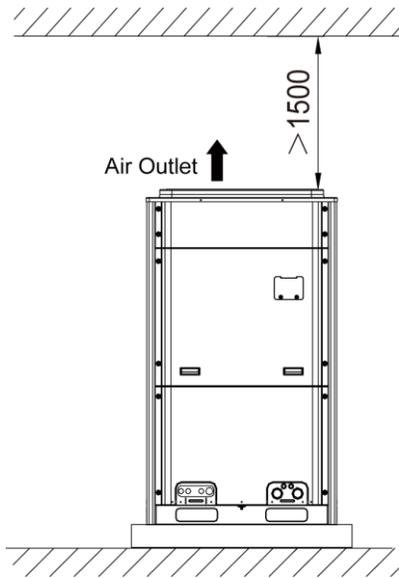
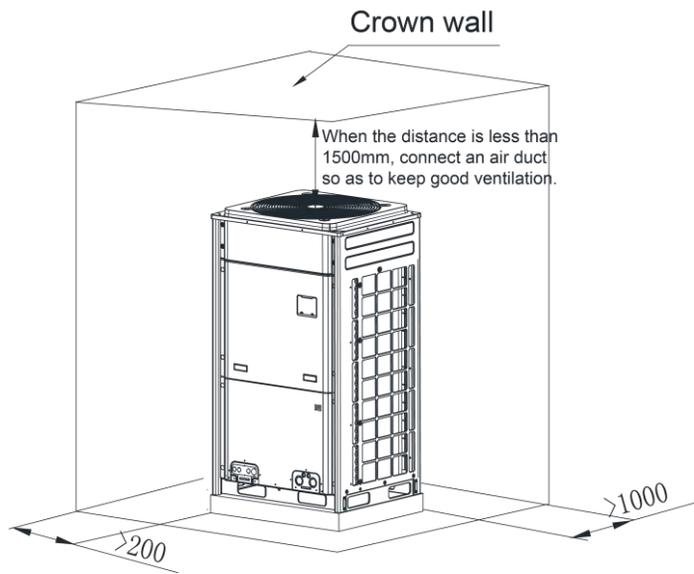

Fig. 3.2.5
Fig. 3.2.6
3.2.2 When there is wall (or similar obstruction) above the unit, keep the distance between the unit top and the wall at least 3000mm or above. When the unit is located in a totally open space with no obstructions in four directions, keep the distance between the unit top and wall at least 1500mm or above (See Fig. 3.2.5). When space is limited within 1500mm or the unit is not set in an open space, air return pipe is required to be installed in order to keep good ventilation (See Fig. 3.2.6).